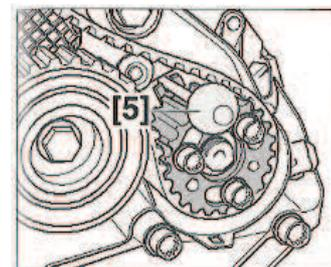

FIG. 4
- Lock pin for the fuel injection pump pulley (FIG. 4) [5].